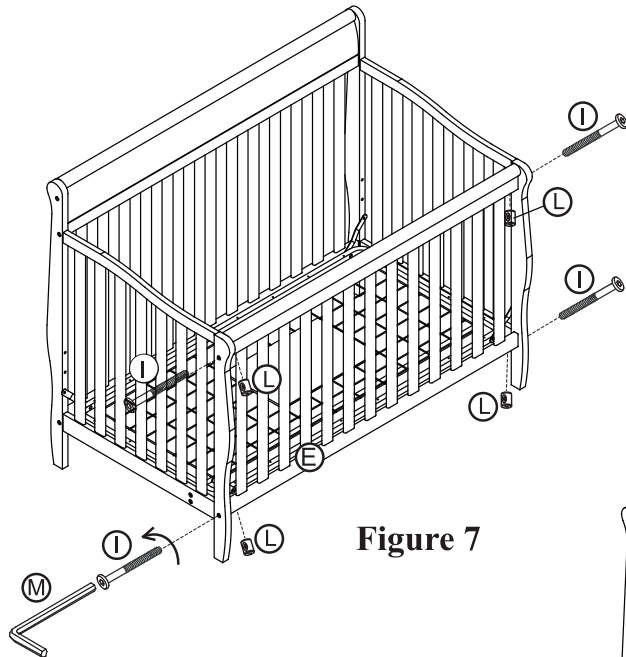

Figure 7
You have the option to convert crib to a Toddler / Day bed. Simply follow Step 6 in reverse order and remove the Front Rail (E). See Figures 7 and 7A.